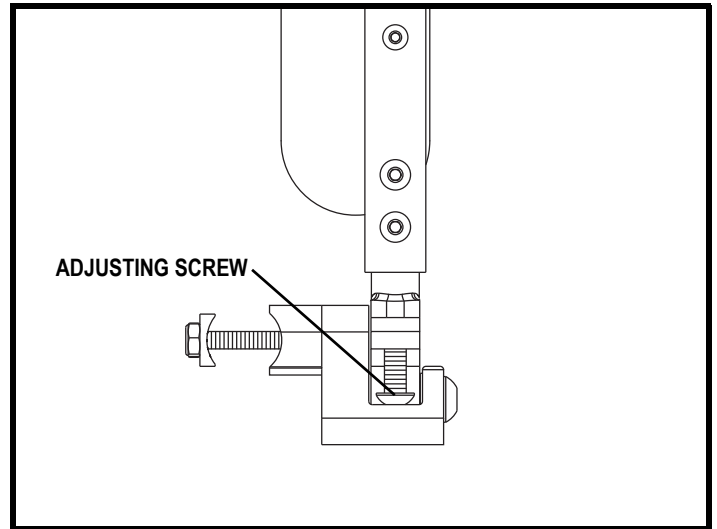

Figure 35. Non-latching Flip-up Armrest Angle Adjustment
2. Turn the adjusting screw to raise or lower the front of the armrest. See figure 35.